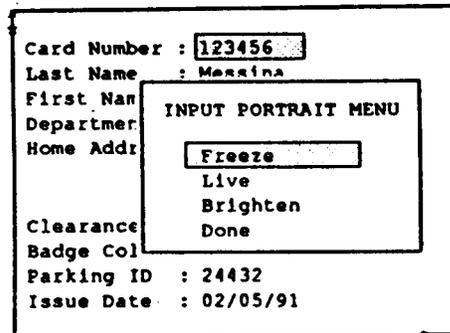

**Figure 2-17 Inserting signature card into Scanner**
4. If your System includes a Signature Scanner, insert a signed signature card into the Scanner as shown in Figure 2-17 — signature side up, cut-corner end first.